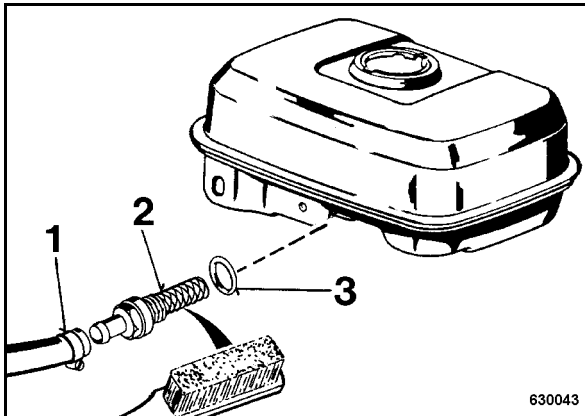

Fig. 58
- Open the hose clamp 1 (Fig. 58), pull off the hose.
- Unscrew fuel screen (2).